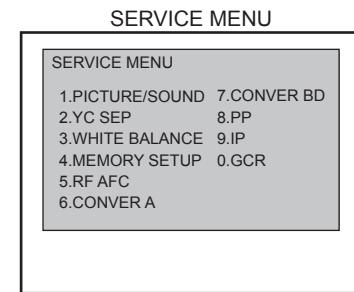

Fig.1
b) The SERVICE MENU screen of Fig.1 is displayed.
c) Verify what to set in the SERVICE MENU, and set whatever is necessary (Fig.1).